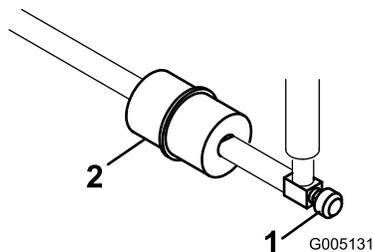

Figure 39
The in-line fuel filter is in the fuel line between the fuel tank and carburetor (Figure 39).
1. Close the fuel-shutoff valve (Figure 39).
2. Place a drain pan under the filter, loosen the hose clamp on the carburetor side of filter, and remove the fuel line from the filter (Figure 39).
3. Loosen the other hose clamp and remove the filter (Figure 39).